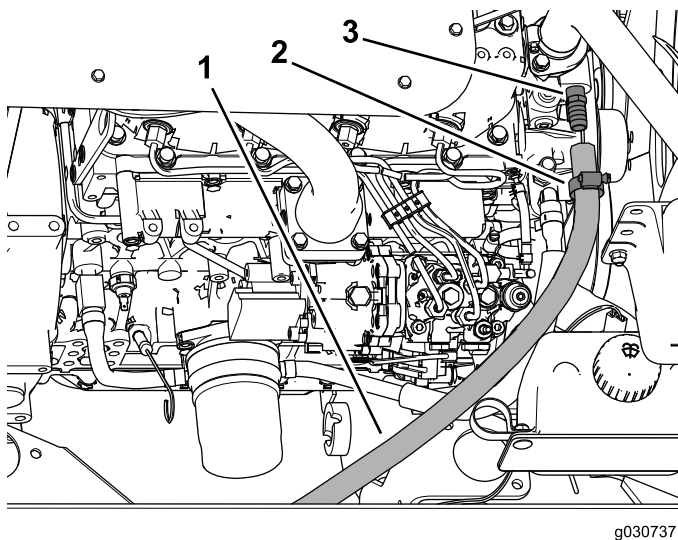

**Figure 38**
4. Route the hoses for the heater and the drain hose through the hose ring on the rear cab mount (Figure 38).